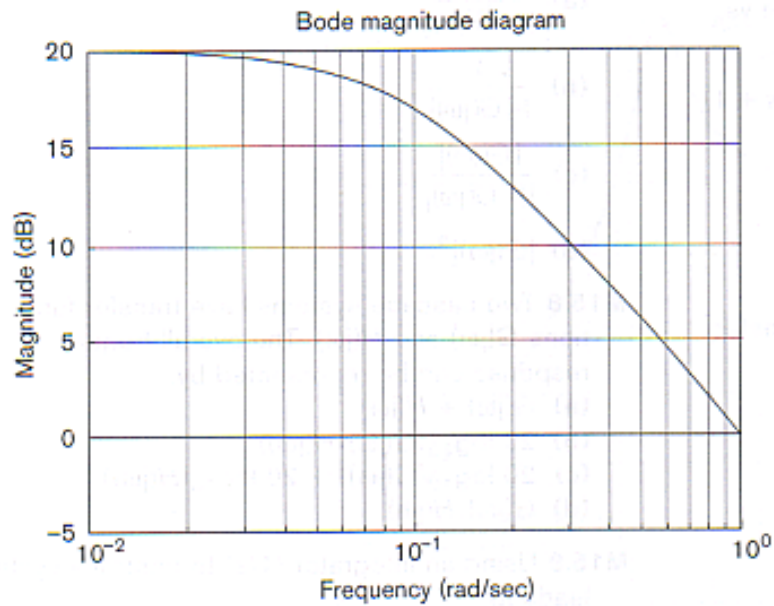

Figure 8.2
- 8.3 The magnitude response of a first order system is given in Figure 8.2. Find the gain and the time constant of the system.